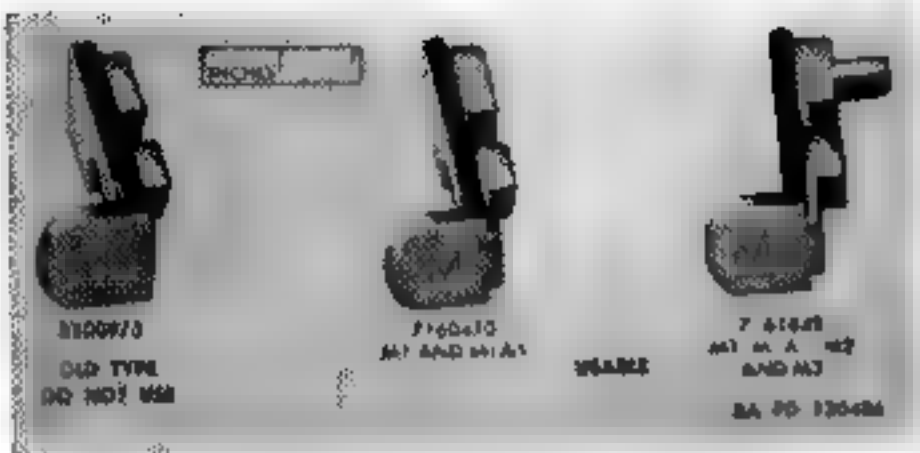

Figure 54. Magazine catches.
(1) Check to assure that magazine catch 7161842 (marked with "M" underlined) or 7160470 (marked "M" not underlined) is used. Although they are interchangeable, stocks of catch 7161842 should be conserved for carbines M2 and M3. Modification Work Order ORD B28-W-4 prescribes replacing the old type catch with the type (Fig 54).
(2) Test the function of the magazine catch. Check catch for free movement in guideway, deformation, worn or burred retainer plunger recess, and worn or burred magazine retention lugs. See that projection on end of catch 7161842 is neither bent nor burred. Check magazine catch spring plunger for retention on spring, wear, and burrs, and check spring for functioning, deformation, and set. See table II, for standards on magazine catch spring. When magazine catch